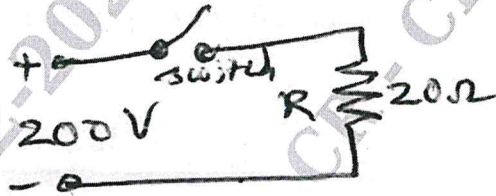

Fig.Q.8(b)
- II. Consider the switch, to be ideal in the circuit of Fig.Q.8(b), determine: